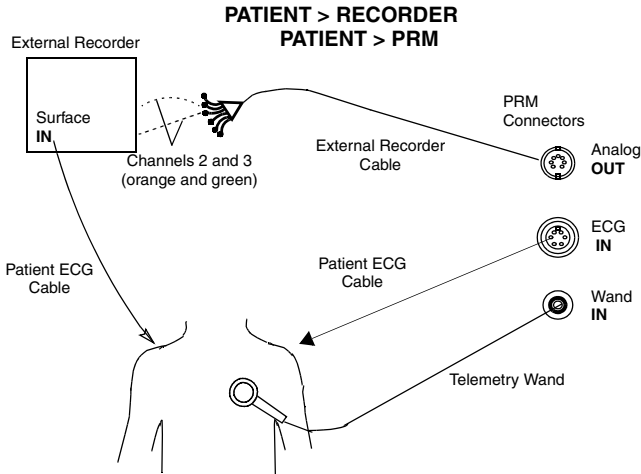

Figure 14. Parallel connection of PRM surface leads and external surface monitor.
- Simultaneous connections from patient to PRM and patient to external recorder (Figure 14)
To display traces on both PRM and ECG recorders using two different patient ECG leads, set up the equipment as shown in Figure 14.